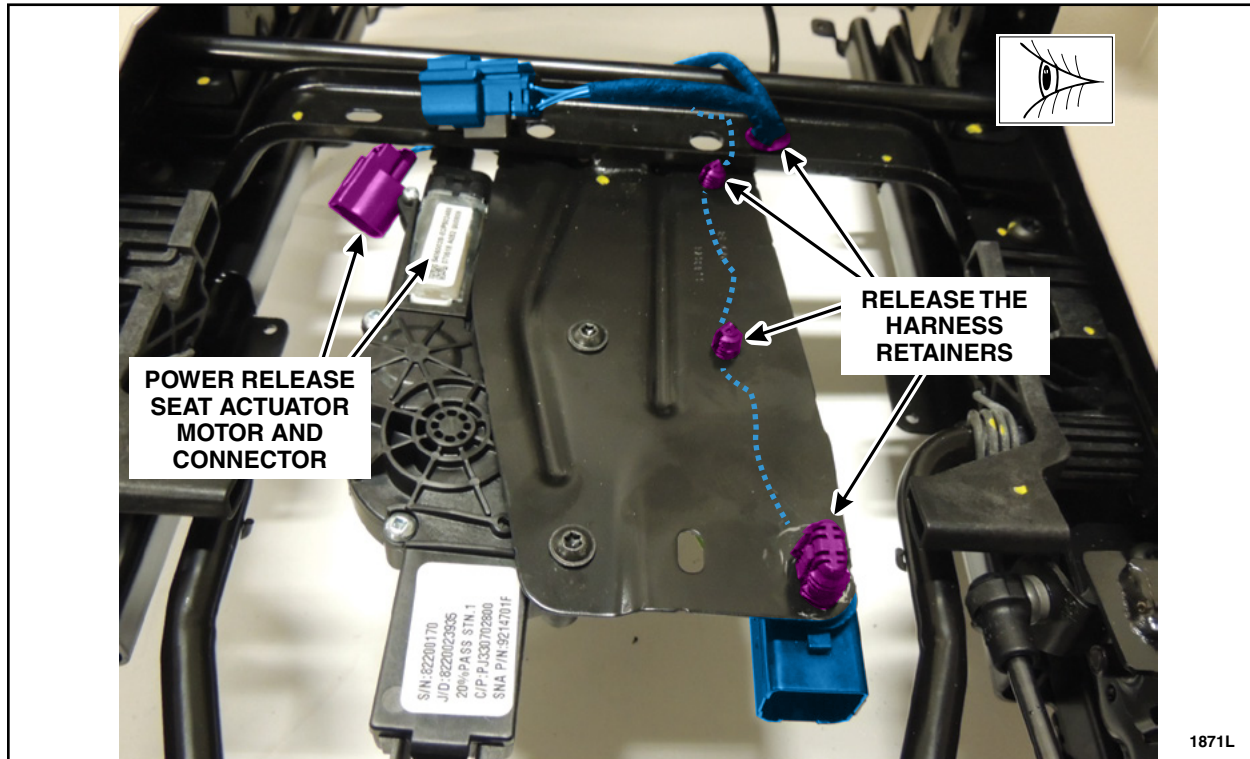

FIGURE 12
14. Disconnect the power release seat actuator motor electrical connector. See Figure 12.
15. Detach the pin-type retainers and remove the seat jumper harness assembly from the seat frame. See Figure 12.
17. Install the seat jumper harness assembly to the seat frame. See Figure 12.
18. Connect the power release seat actuator motor electrical connector. See Figure 12.